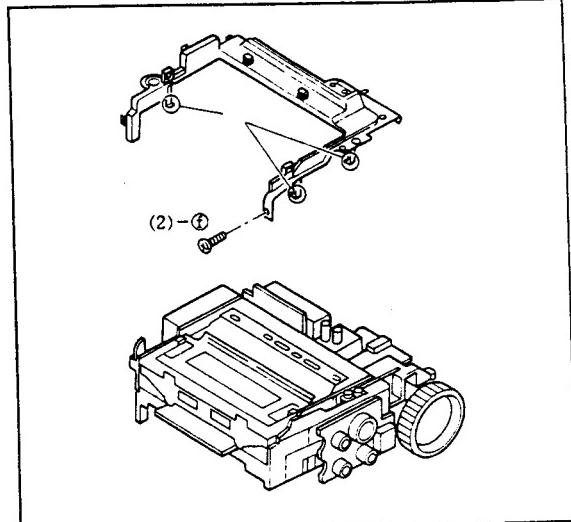

Fig. II-8
- (1) Demount the AV terminal cover while shifting the hinge pin.
- (2) Remove three screws ⑧ and one ④ (ref. fig. II-8).
- (3) Remove the connector CN801.
- (4) Demount the front cover.